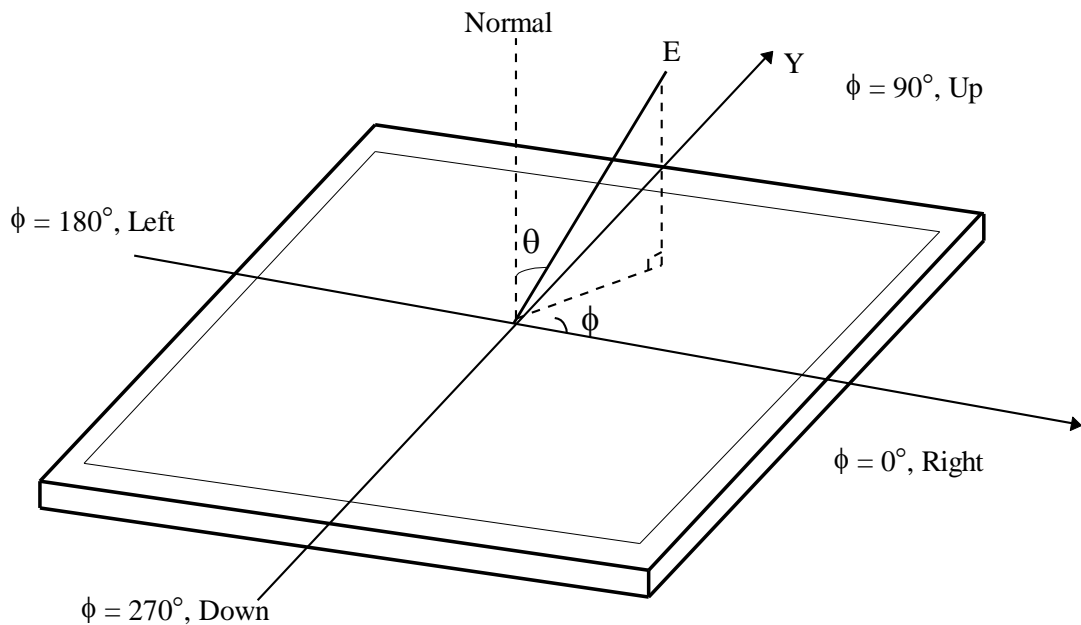

FIG. 4 Viewing Angle
5. Viewing angle is the angle at which the contrast ratio is greater than 10. The angles are determined for the horizontal or x axis and the vertical or y axis with respect to the z axis which is normal to the LCD module surface. For more information, see the FIG. 4.
For more information, see the FIG. 4